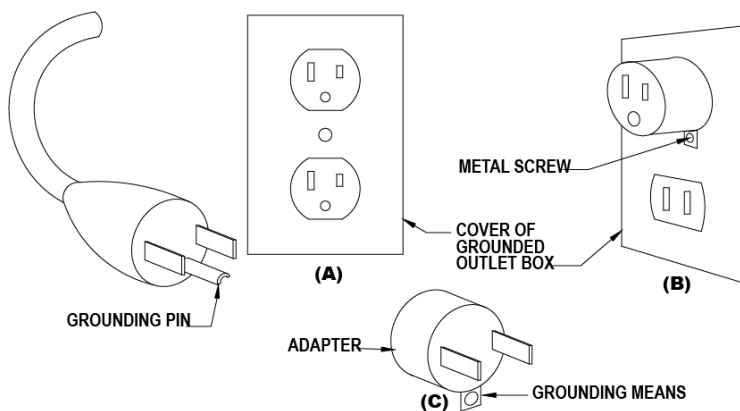

Figure 6: Power Cord Grounding
- The cord has a plug as shown at A in Figure 6. An adapter as shown at C is available for connecting three-blade grounding-type plugs to two-slot receptacles. The green grounding lug extending from the adapter must be connected to a permanent ground such as a properly grounded outlet box. The adapter should not be used if a three-slot grounded receptacle is available.